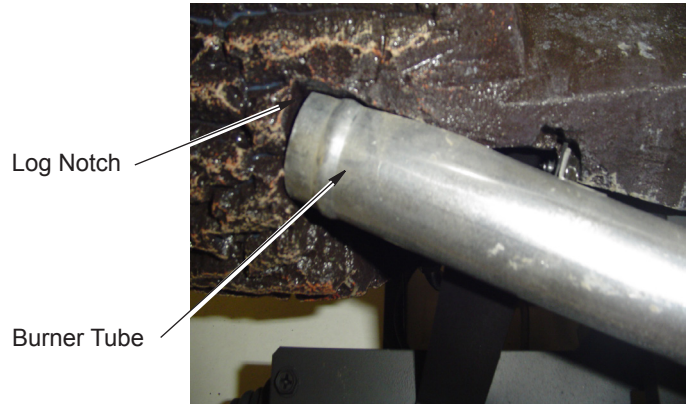
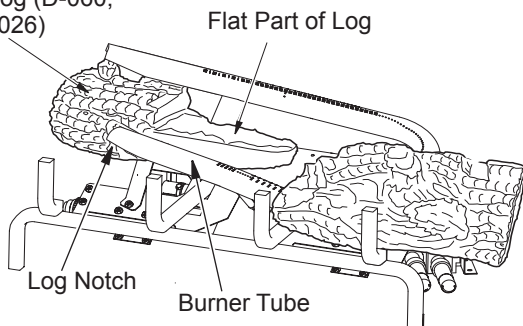

Figure 20A - Installing Back Left Log
Figure 20 - Installing Back Left Log
- Find the back left log (LMF36-SC and VFGT24 inch models: D-060 or LMF42-SC and VFGT30 inch models: D-018 or LMF48-SC and VFGT36 inch models: D-026). See Figures 20, 20A, and 20B. Figure 20A shows how the log must fit against the end of the burner. Figure 20B shows how the notch in log fits against the vertical portion of the burner tube. Place this log on the base assembly by inserting it from the left side as shown in Figure 20. You will need to twist the log slightly to get it to fit against the burners properly. It will rest even with the back edge of the pan.